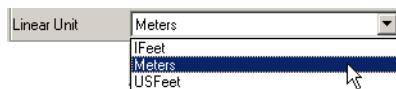

Figure 3-51. Linear Units List
- the Linear units (Figure 3-51).